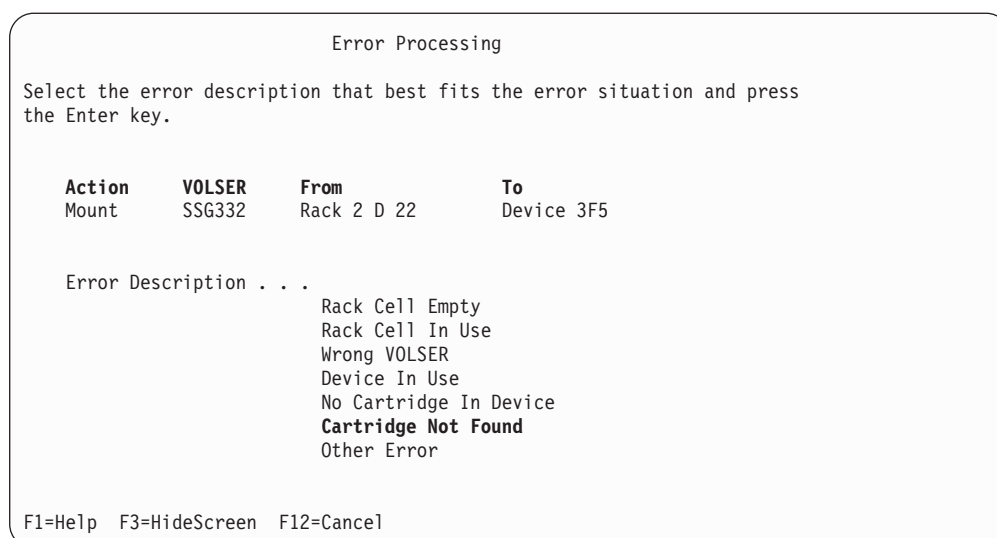

Figure 222. Manual Mode Error Processing Window
3. Select the error description that best fits the problem. Use the up arrow (↑) or down arrow (↓) key in the Manual Mode Error Processing window (Figure 222 on page 330) to highlight the error description.